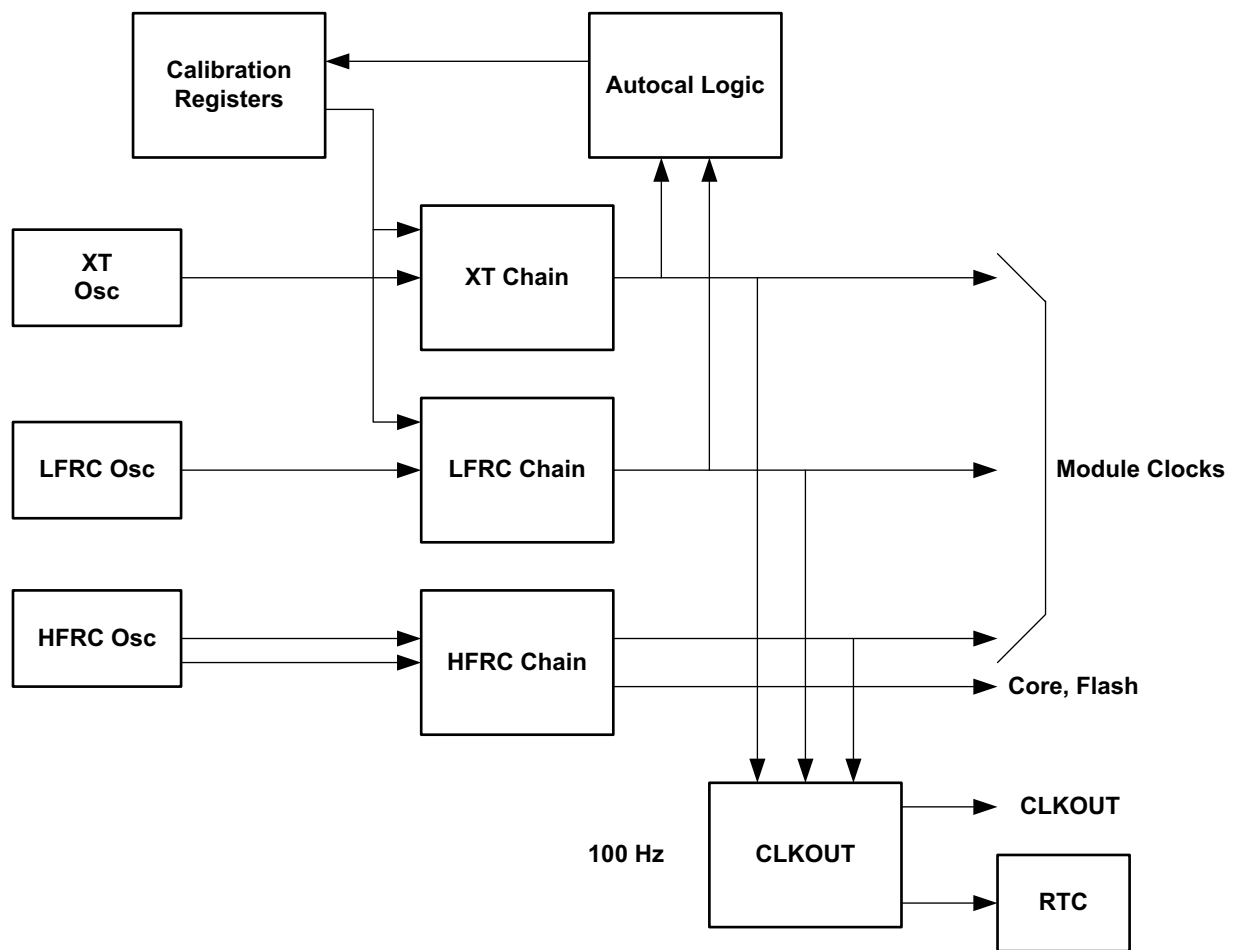

Figure 62. Block diagram for the Clock Generator and Real Time Clock Module
A high-level view of the Clock Generator Module, which supplies all clocks required by the Apollo3 Blue SoC, is shown in Figure 62. These clocks are derived from one of three fundamental clock sources: a high precision crystal controlled oscillator (XT), a low power 1 kHz RC oscillator (LFRC) and a high frequency 48/96 MHz oscillator (HFRC).